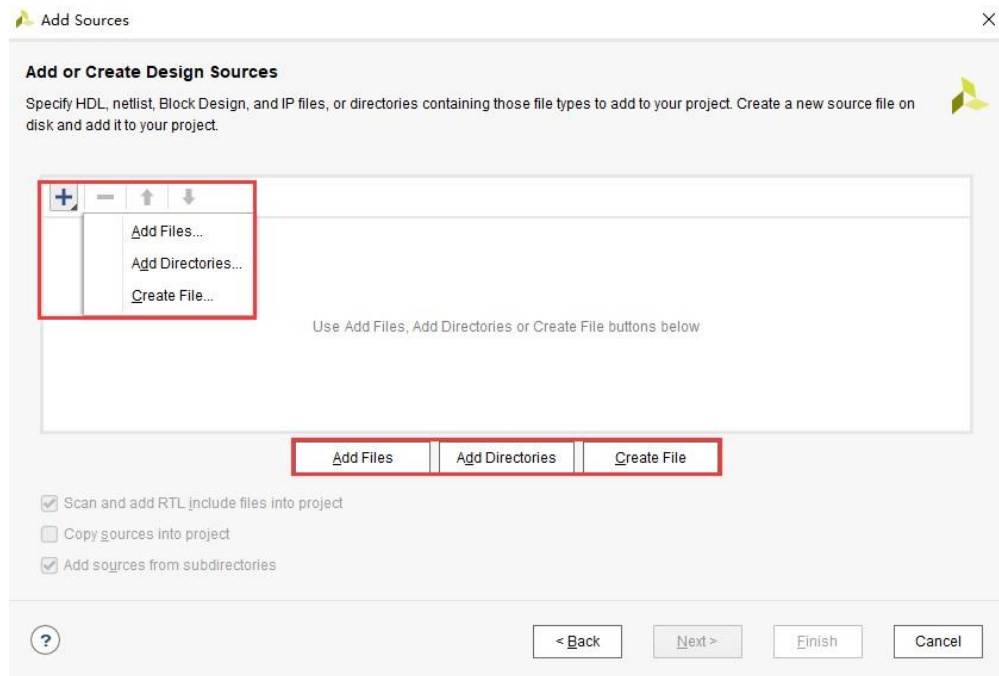

Figure 3.
3. Click the button  and select options or click the options directly to add or create files, as shown in figure 3.